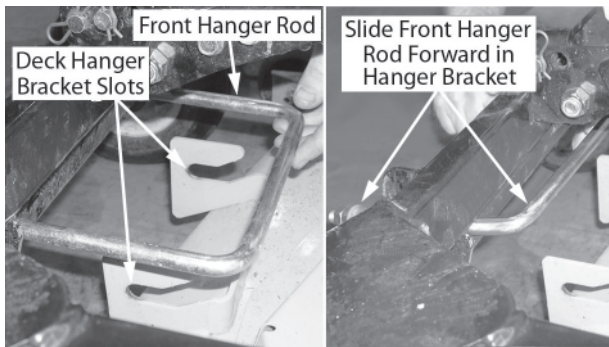

Figure 7-4
- Carefully roll the deck toward the front of the tractor until the front hanger rod can be removed from the slots of the deck hanger bracket at the front of the deck. See Figure 7-4.
- Slide the front hanger rod forward in its pivot bracket so that it is held upward away from the deck hanger bracket slots. Refer to Figure 7-4.
- Roll the deck forward and place the deck front hanger rod into the slots of the deck front hanger bracket. Then roll the deck rearward so that the hanger rod is at the front of the slots. Refer to Figure 7-4.